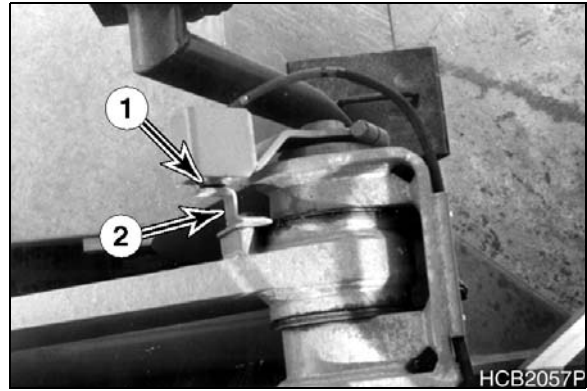

Figure 44
Placing bucket lever in "L" position will lock control lever in lower boom position. Boom will move downward until trip plate (2, Figure 44) makes contact with bucket lower limit switch (1). When limit switch is tripped, boom will stop lowering and bucket lever will automatically be returned to "NEUTRAL" position. Trip plate can be adjusted to control maximum height that boom can be lowered.